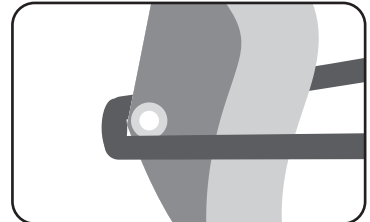

Figure 6: Outhaul sail to the end of the boom
- d) Outhaul your sail to the end of the boom (figure 6).